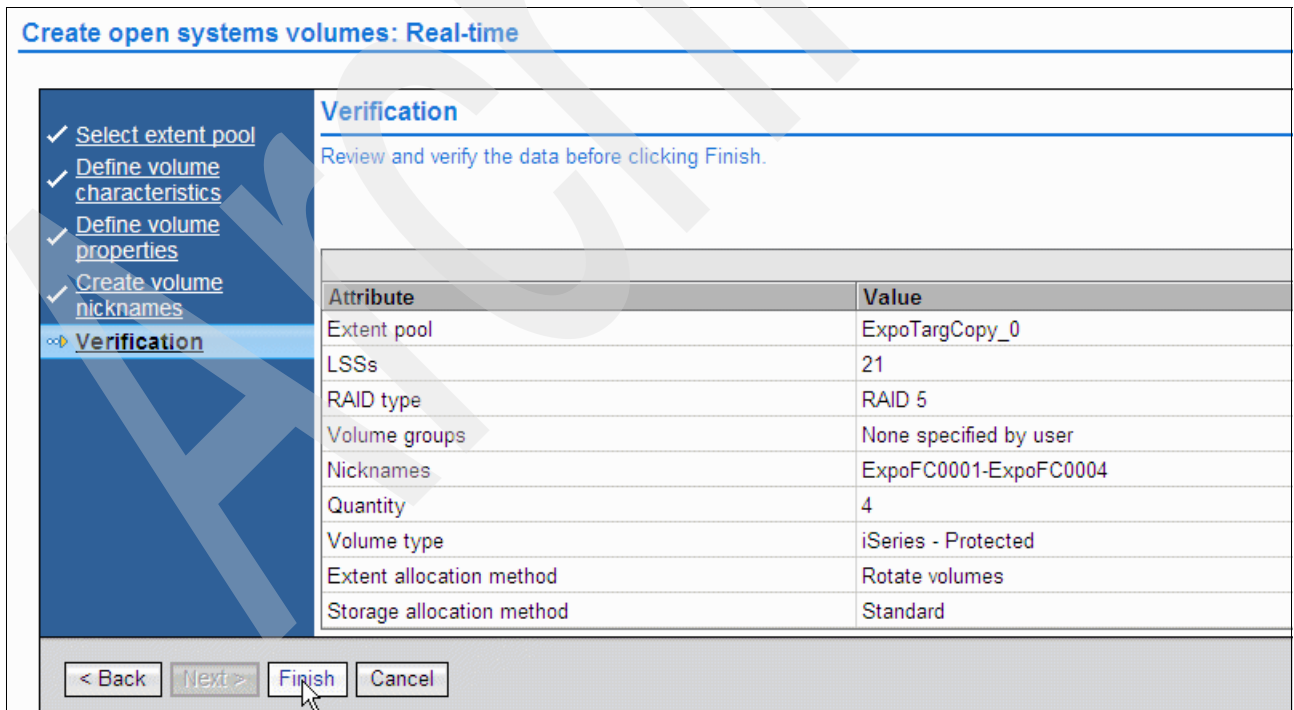

Figure 10-15 Verifying the creation of the open volume
- The Verification panel displays as shown in Figure 10-15. Review the information, and click **Finish** to actually start the logical volume creation process.